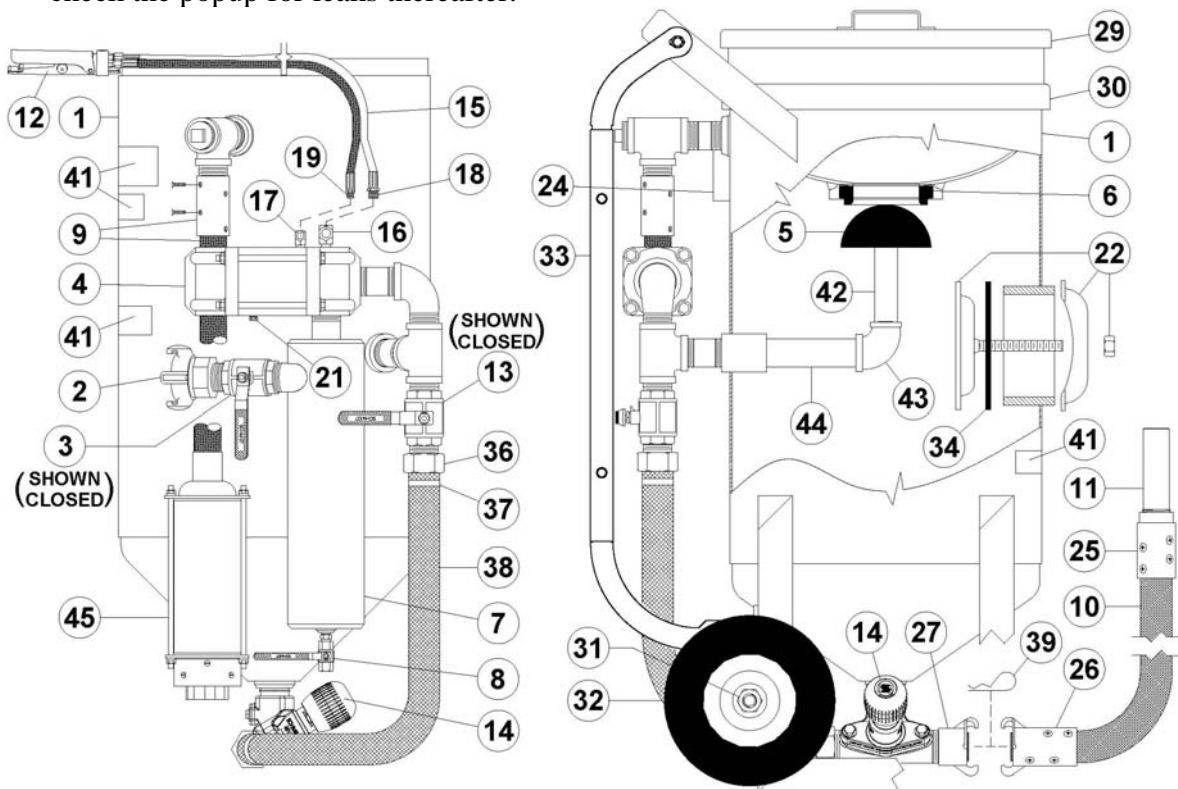

Figure 7.1 – MV3 Valve Abrasive Blaster with pneumatic blast controls
- 7.1.2. Remove the vessel lid (#29) and screen (#30) to check that the popup (#5) has dropped open. The open popup indicates that the blast vessel is depressurized. See Figure 7.1.
7.2 Beginning the Blasting Operation (See Figure 7.1 or 7.2)